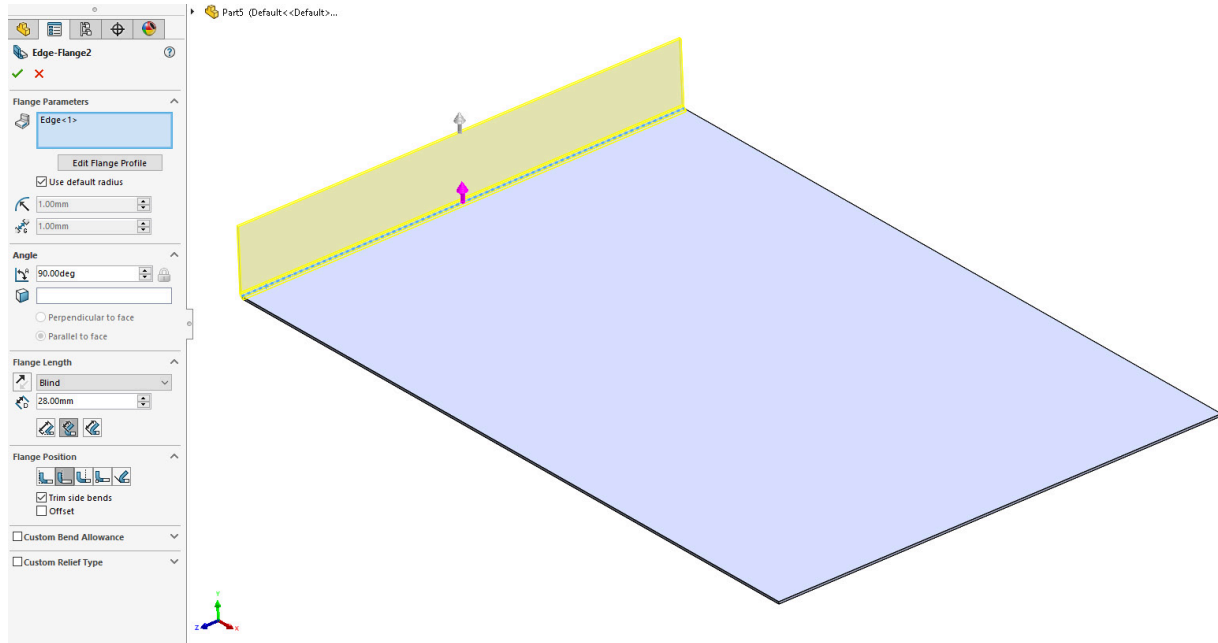

Figure 2.5: An Edge Flange preview
3. Try selecting one of the short edges by left-clicking it. You should see a yellow preview of the Edge Flange, which follows the mouse (*Figure 2.5*). This can be dragged out to the desired position, then a single left-click will set the length (see *Step 7* for more details on Flange Length).